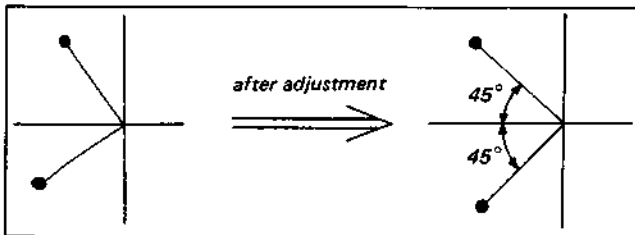

Fig. 4-4-2. 1 H delay adjustment
- (4) Connect the vectorscope pin 9 of IC2.
- (5) Adjust LVI so that the burst signal phase matches the phase of pin 8 of IC2. (See Fig. 4-4-2.)